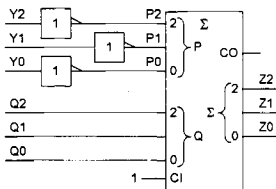

Figure 3
3. (a) *Figure 3* shows a circuit consisting of a 3-bit adder and three inverters. The variables p , q , y and z denote the values of P0:2, Q0:2, etc. as unsigned binary numbers. Give an arithmetic expression for p in terms of y and hence show that